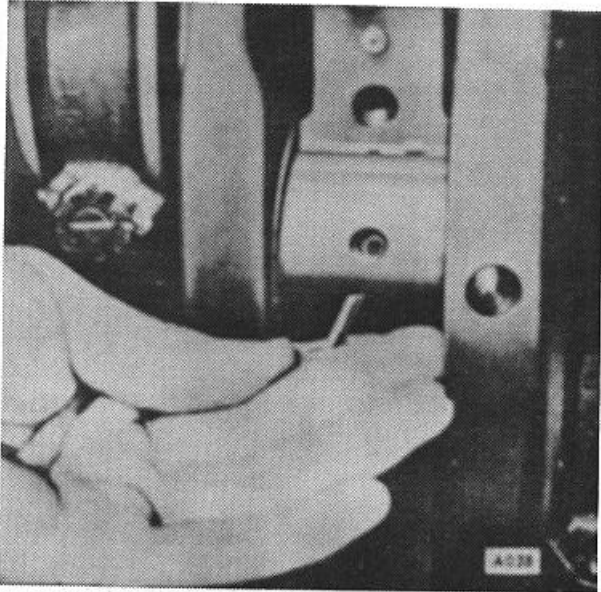
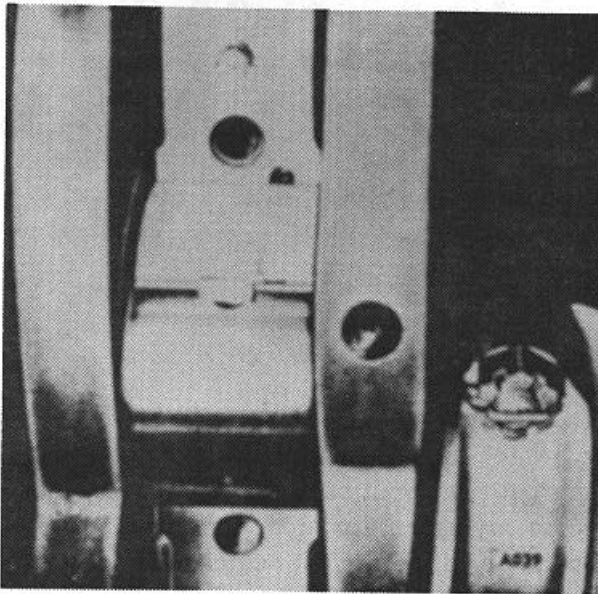

Figure 37.
Figure 38.
b. Insert the pin in the oil hole of the crankshaft. (Fig. 37) As the crankshaft is turned in a clockwise direction, the head of the pin will pick up the bearing shell and force it out of the bore in the block. The bearing can be replaced by reversing this removal procedure. (Fig. 38)